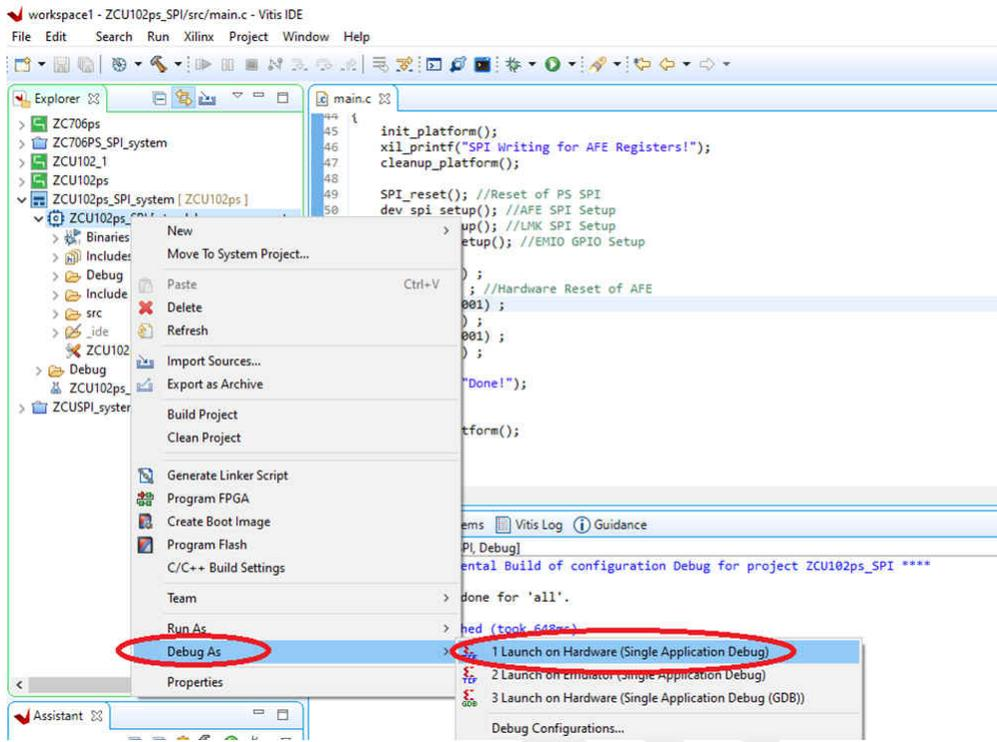

Figure 16-1. Debugging Application Project
1. Right-click the project name and go to *Debug As* from the drop-down menu. Click *Launch on Hardware (Single Application Bug)* to run the debug (see Figure 16-1).